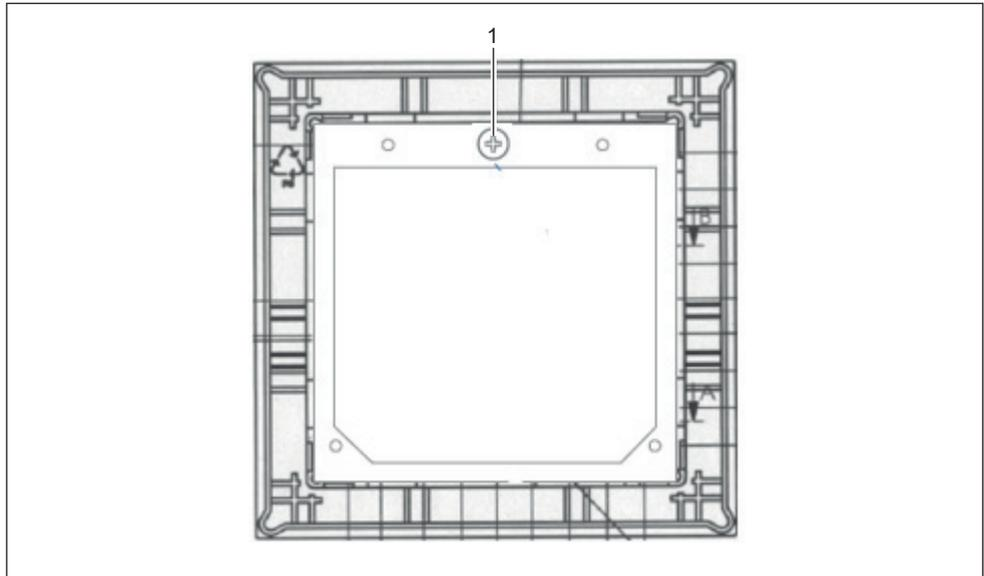

Fig. 3: Factory setting Siedle blind module
2. Release the clamping plate (fig. 3/1) and remove it from the blind module (not supplied).